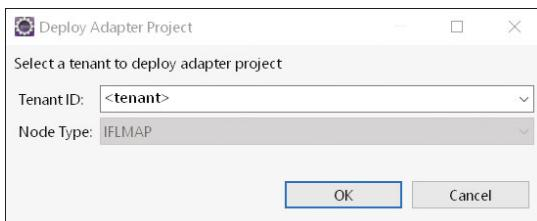

Figure 6.103 Confirming the Tenant to Which the Adapter Project Will Be Deployed
3. The **Deploy Adapter Project** dialog box appears (Figure 6.103) where the tenant is displayed (it should be the tenant to which you're connected with Eclipse; if there are doubts, check the settings under **Window • Preferences • SAP Cloud Platform Integration • Operations Server**).